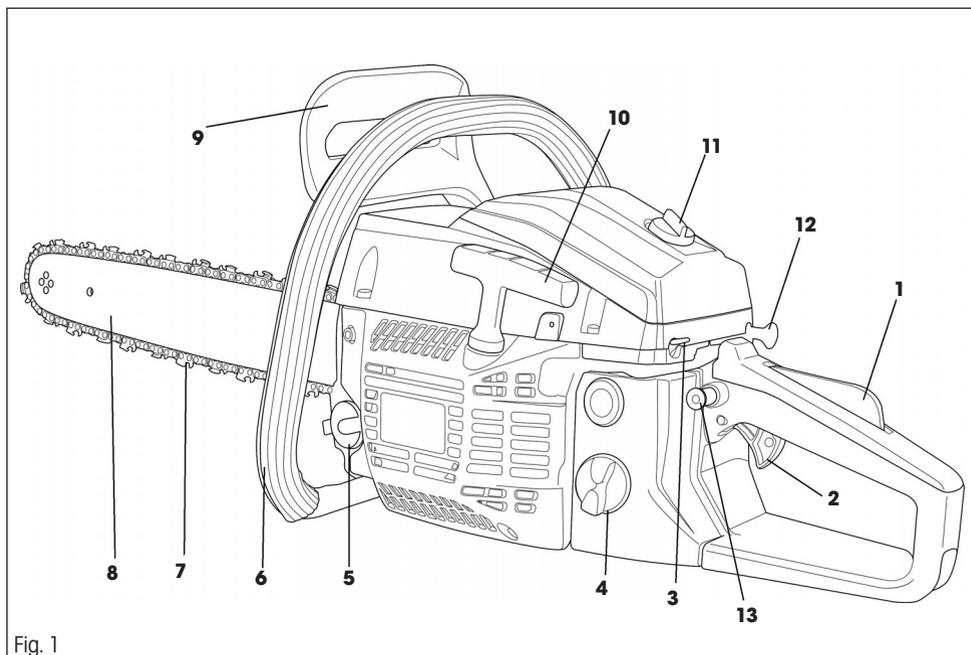

Fig. 1
### Description of the power tool (see Fig. 1)
- ✿ The safety brake lever (Fig. 1 point 9) must be disengaged (pull it towards the top handle)
### Chain brake (Fig. 1, point 9)
- ✿ Push the brake lever (Fig. 1, point 9) forward. The chain should stop immediately.